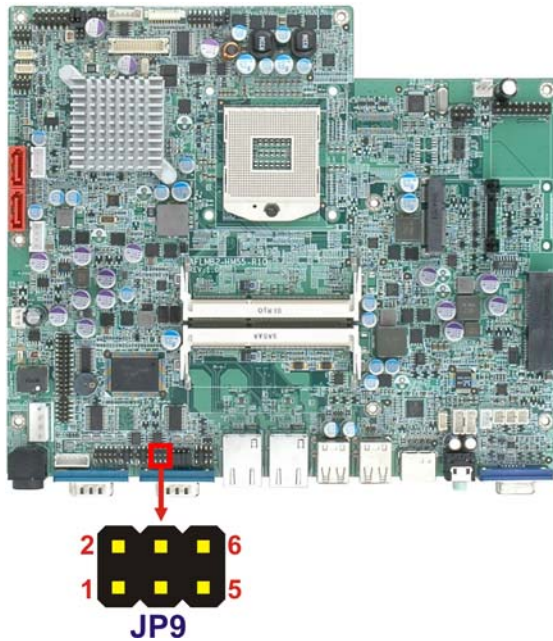

Figure 3-9: COM3 TX Function Select Jumper Location
- Jumper Location:** See Figure 3-9
The COM3 TX Function Select jumper location is shown in **Figure 3-9** below.